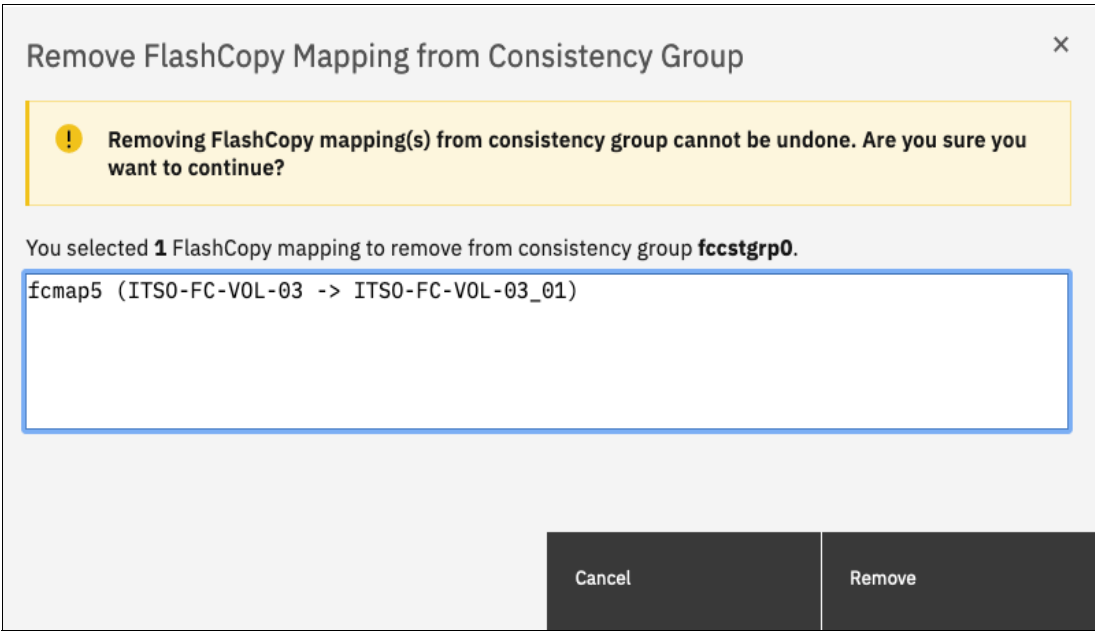

Figure 10-48 Confirm the selection of mappings to be removed
3. In the Remove FlashCopy Mapping from Consistency Group window, click **Remove**, as shown in Figure 10-48.